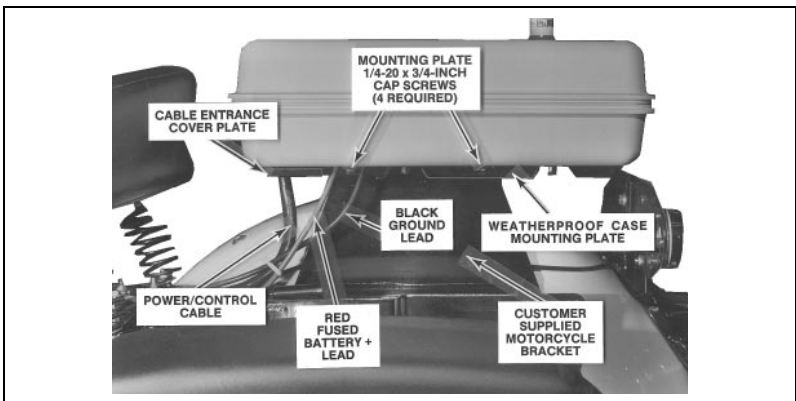

Figure 5. Weatherproof Box Mounting
1. Install the weatherproof case base mounting bracket (19C337200G1) to the motorcycle mounting bracket (customer supplied and installed) with the four 1/4 X 20 X 3/4 inch cap screws and lock nuts provided. See Figure 5.